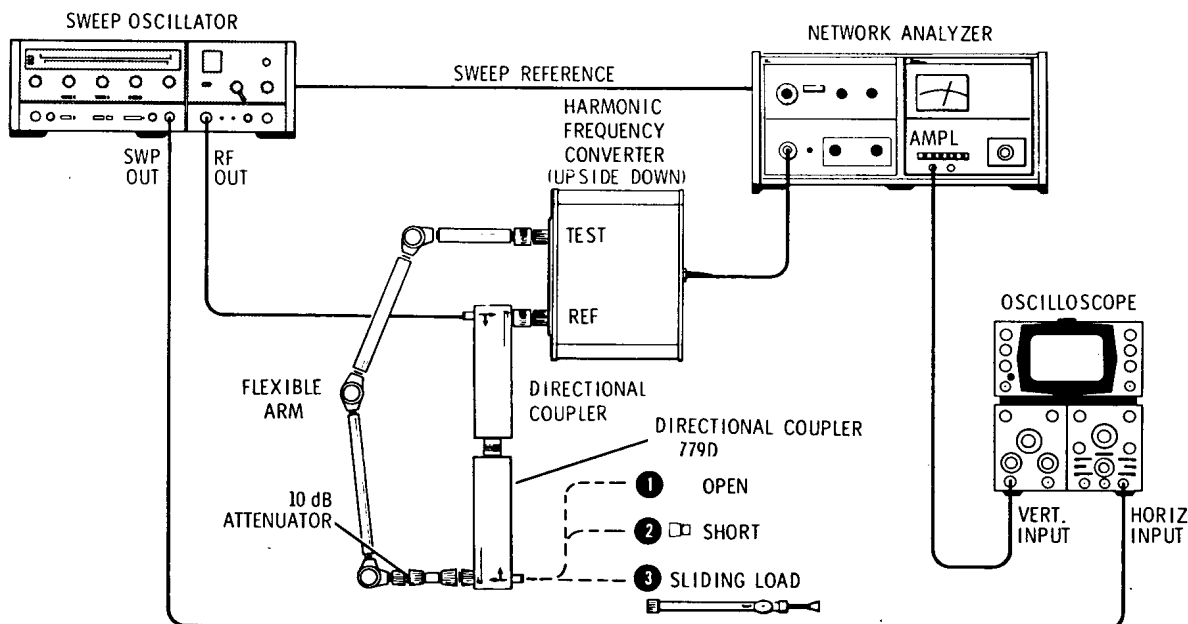

Figure 7 Directivity Test Setup
Description Refer to Figure 7 for Test Setup and Table 4 for Test Equipment.
1. Connect the equipment as shown in Figure 7.
4. Open (1) and short (2) the 779D under test. Take the average of the traces as the calibration trace. Mark the trace on the CRT with a grease pencil. If a short is not available use just the open circuit trace.
5. Connect a sliding load (3) to the 779D under test.